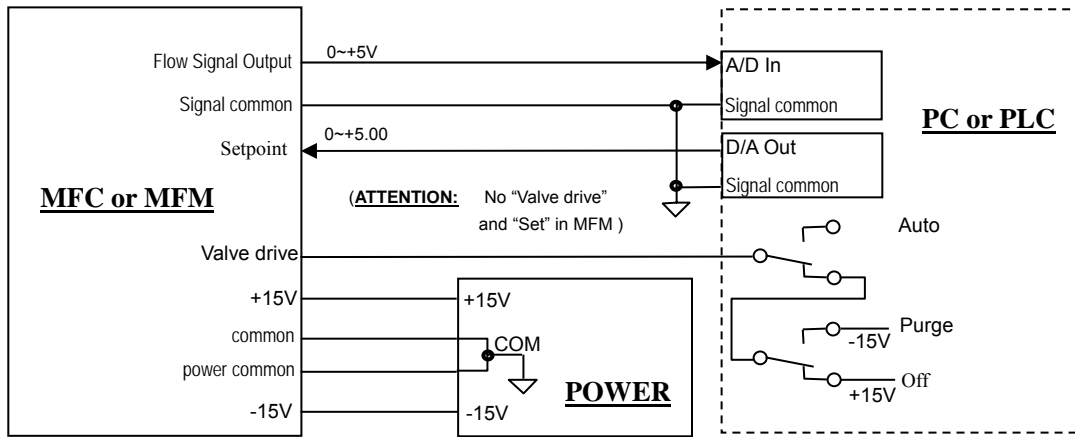

Figure 12. PC Directly Connection
If PC or PLC need perform the OFF and PURGE function of valve control, it could be accomplished by use two RELAYS (two sets) transfer contacts. One relay controls OFF and another one controls PURGE, when these two relays are not operating then it reaches to auto-control mode. Please be careful, it should be not caused short circuit by two relays simultaneously operating. Suggested relays connection as method as showing in Figure 12.
b. PC Directly Connection (Figure 12)
If users need PC performs “AUTO”, “OFF” and “PURGE” functions, we suggested connection as showing as in Figure 12.
Please have the reference in Figure 1 and Figure 12, after MFC warming up, it could have PC startup.